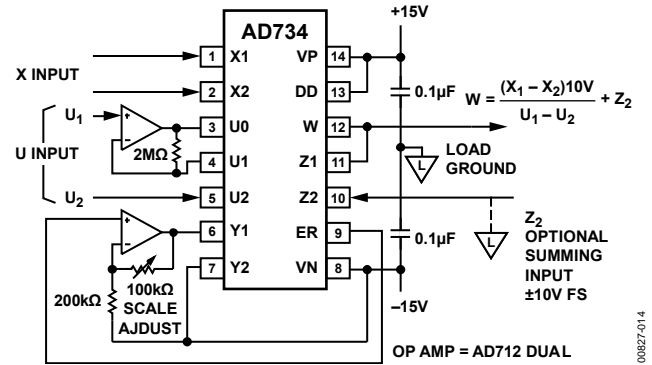

Figure 31. Two-Quadrant Divider with Fixed 10 V Scaling
Where a numerator of 10 V is needed, to implement a two-quadrant divider with fixed scaling, the connections shown in Figure 31 can be used. The reference voltage output appearing between Pin 9 (ER) and Pin 8 (VN) is amplified and buffered by the second op amp, to impose 10 V across the Y1/Y2 input. Note that Y2 is connected to the negative supply in this application. This is permissible because the common-mode voltage is still high enough to meet the internal requirements.